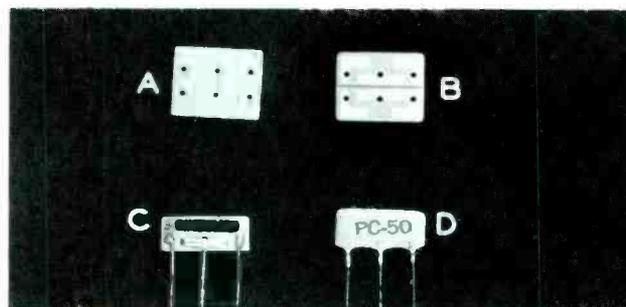
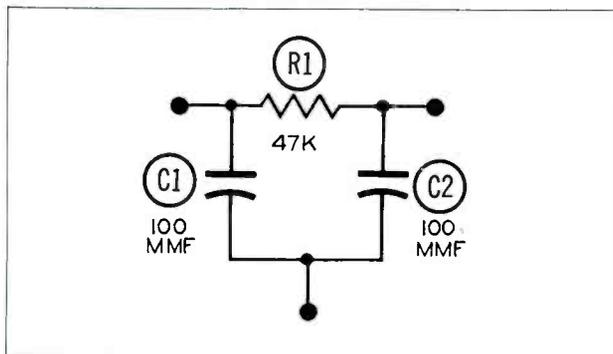

Figure 1. Construction Steps in the Diode Filter Printed Circuit.
Figure 2. Schematic of Diode Filter Unit Shown in Figure 1.
Figure 1 shows a diode filter used in AM receivers as it appears during several steps of manufacture. Figure 2 is a schematic of this diode filter unit.
The first step in construction is the compounding and mixing of the ceramic base material, which is mixed in large quantities. This completed, it is screened, dried and then pelleted into the desired shapes. It is then fired in kilns ranging in temperature from 2200 to 2900 degrees Fahrenheit depending upon the type of ceramic. Such a base plate is shown at (A) of Figure 1.
conductivity of the silver plate is only slightly less than that of pure silver. The silver adheres to the base plate with a tensile strength of 3000 pounds. The diode filter unit at (B) in Figure 1 has completed this stage of manufacture.
The next step is the addition of the resistive element. The formula of a basic resistive material varies according to the resistance required in the circuit. With any given basic resistive mix, the resistance placed on the base plate can be controlled by changing the area or thickness of the element, or both. In this manner several resistors can be screened at the same time providing their resistances do not have a range of greater than 2 to 1. If such is the case, a separate screening step must be performed using a different basic resistive mix. The unit is then cured at a high temperature to fix the body of the resistor. The black portion on the plate at (C) of Figure 1 is the resistive material. This particular circuit requires only one resistor with a value of 47K ohms. Note that the completed unit is only half the size of the base plate at (A). This is due to the manufacturing process employed whereby two units are left attached during some of the steps of construction. The two units at (A) and (B) of Figure 1 are shown before they are separated into single units.
The next operation is that of applying a protective coating over the resistor element. The coating is of a special material which prevents absorption of moisture from the air. The coating also acts as an insulator, which is essential when capacitors are attached to the unit. These capacitors are required on those units where, for purposes of keeping the distributed capacity to a minimum, a low dielectric constant ceramic base is used. Thus in order to obtain sufficient capacity, separate ceramic capacitors are attached to the proper points in the unit. The diode filter shown in Figure 1 utilizes the distributed capacity of the unit and does not require the addition of separate capacitors. A high dielectric constant base plate is used. The units are again cured at temperatures in excess of 350 degrees to set the protective coating.
The wires which will extend outside the unit to attach to the external circuits, are then added. The ends of the wires are passed through the holes in the base plate and bent over on the reverse side, or are held by special jigs. This holds the wires in place until the soldering operation is completed. A whole tray of the units are then immersed into a hot wax bath at temperatures above the melting point of solder. In this manner a mass soldering operation is performed. Note that the unit at (C) of Figure 1 has completed the soldering operation.